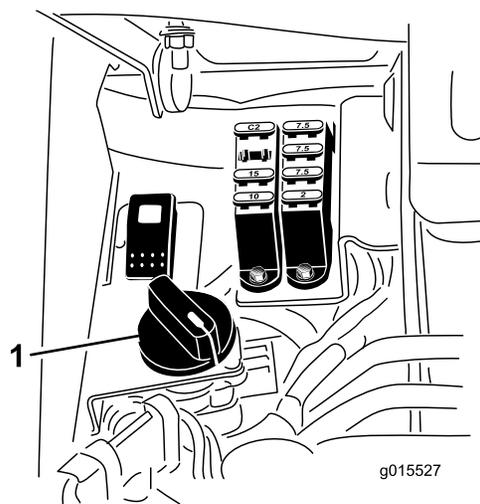

Figure 60
6. Rotate the Reel Speed Control to setting 1 (Figure 60).